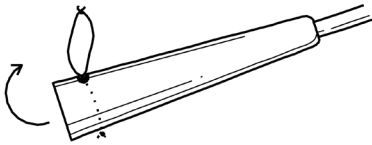

Figure 3
2. Remove the silicone layer from the drainage funnel. Pull the loop of the thread over the funnel according to Figure 3.